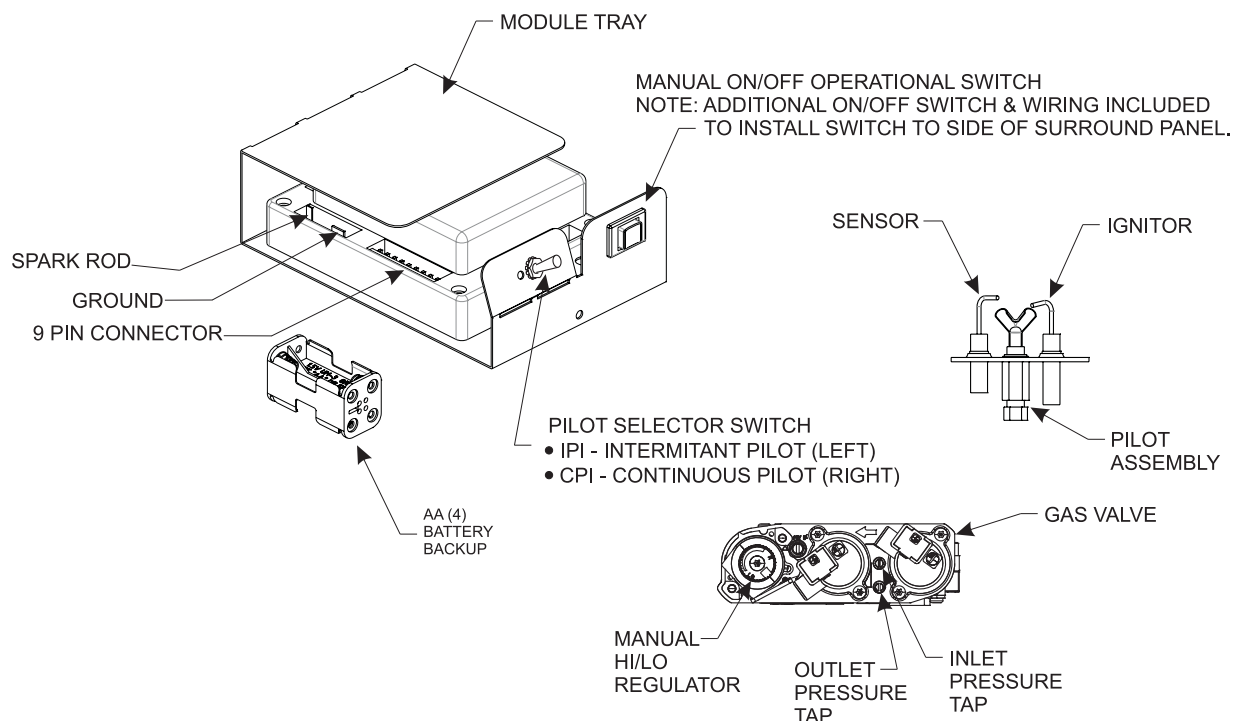

Figure 79
NOTICE: A small toggle switch is located on the front of the module tray that is used to switch from IPI (left) to the CPI (right). See **Figure 79**.
3. The gas valve has inlet and outlet pressure taps as shown in **Figure 79**. Refer to page 13 for gas pressure requirements.
NOTICE: The gas control has a manual HI/LO flame adjustment knob (regulator) that allows you to increase or decrease the height of the burner flame. See **Figure 79**. Rotate the HI/LO knob counterclockwise to "HI" to increase the flame height, and clockwise to "LO" to decrease the flame height.
To connect the remote receiver to the fireplace, first disconnect the ON/OFF switch wires from the white and green wire connectors and connect the wires from the remote receiver to the green and white wire connectors. See **Figure 79**.